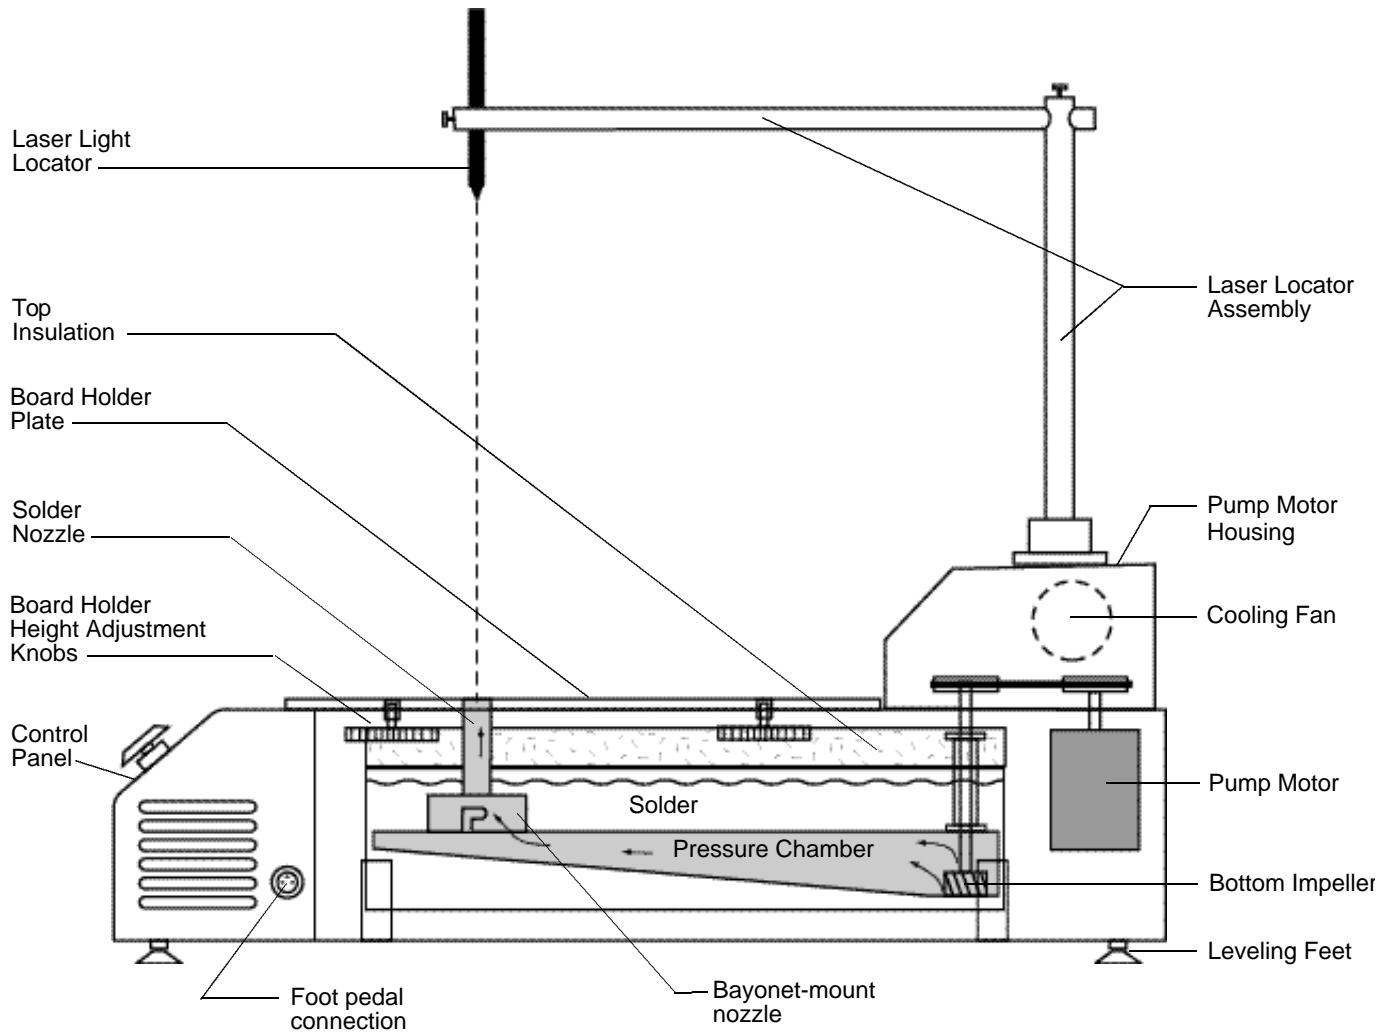

Fig. 3
D. Attach appropriate solder nozzle and turn to secure. (see fig. 3.)